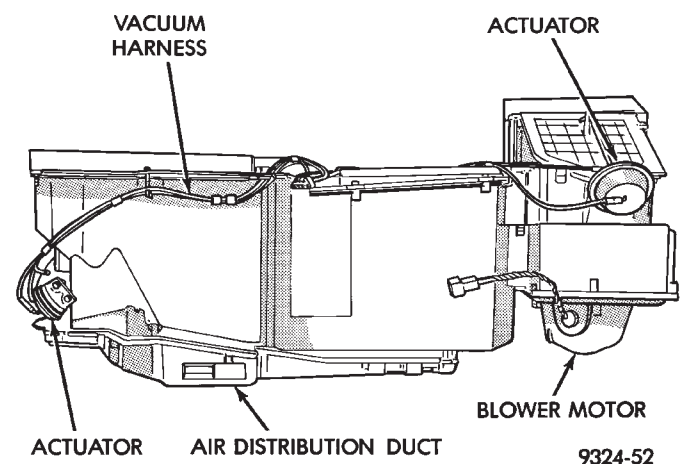

Fig. 1 Heater/Air Conditioning Assembly
- (1) Place heater/A/C unit assembly (Fig. 1) on workbench.